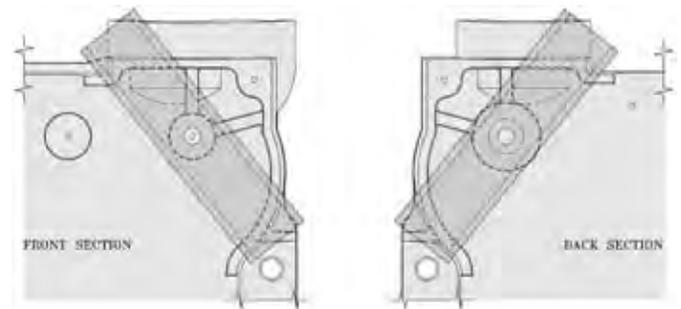
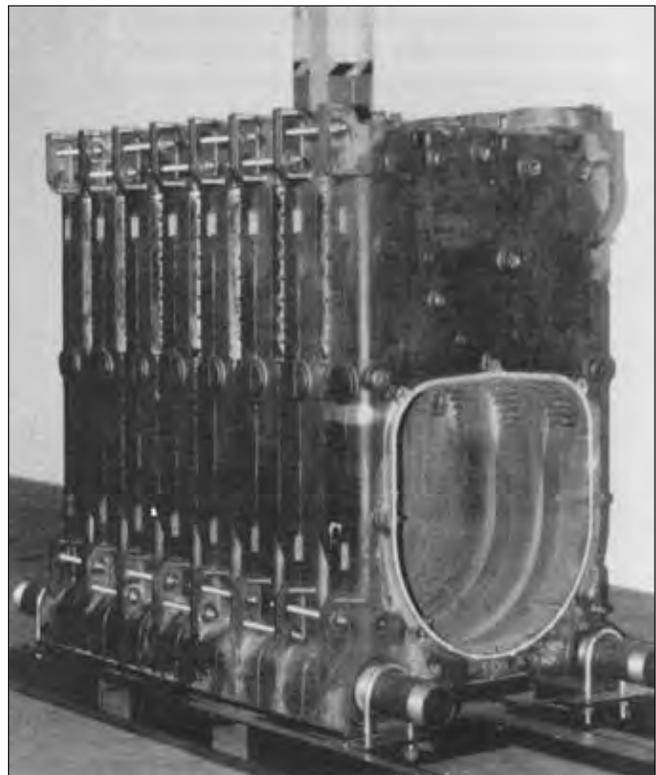

Figure 10: Front and Rear Section Channel Block Positions (Hydraulic Draw-up)
Figure 13: Boiler Section Assembly
- d. Place a 3" x 12" lg. steel channel on each end of the upper draw-up rod and a 3" x 8½" lg. steel channel on each end of the lower draw-up rods. Refer to Figures 10 and 11 for proper placement of channel block during assembly procedures. Install nuts and washers on one end of the draw-up rods and the hydraulic rams, washers and draw-up rod clamps on the other. See Figure 13.